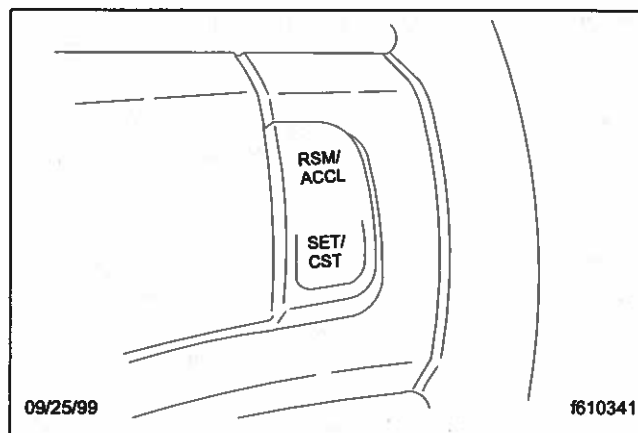

Fig. 2.25, Speed Control Switch
To Set a Speed—press the set/coast (SET/CST) switch located on the steering wheel, after you have reached the desired speed. See Fig. 2.25. The vehicle will travel at the set speed until the brake pedal or clutch pedal is depressed, or until the cruise control OFF switch is pressed.
- Press and hold the resume/accelerate (RSM/ACCL) switch (Fig. 2.25) located on the steering wheel until the higher set speed is reached. Then release the switch.